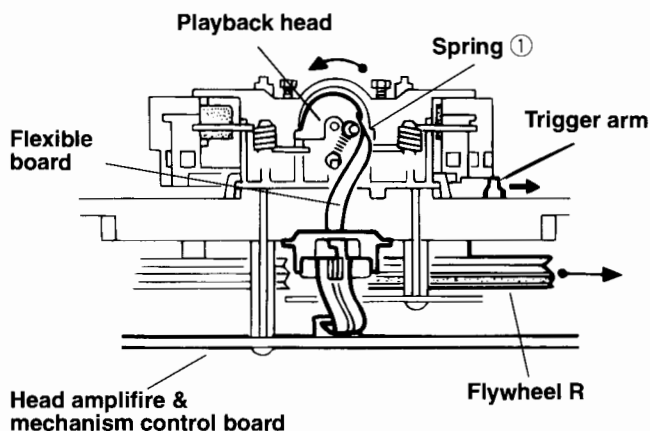
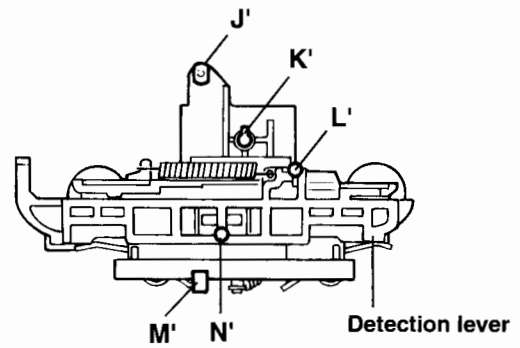
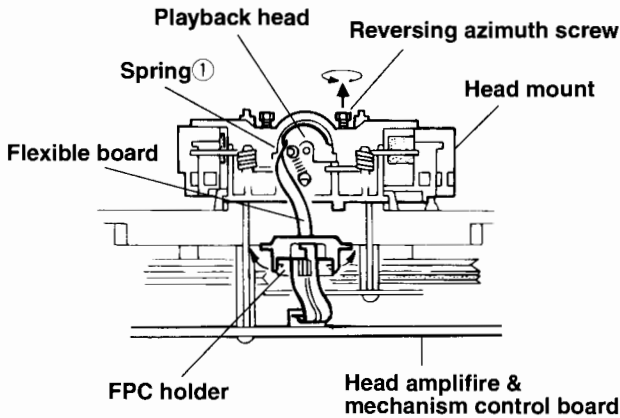
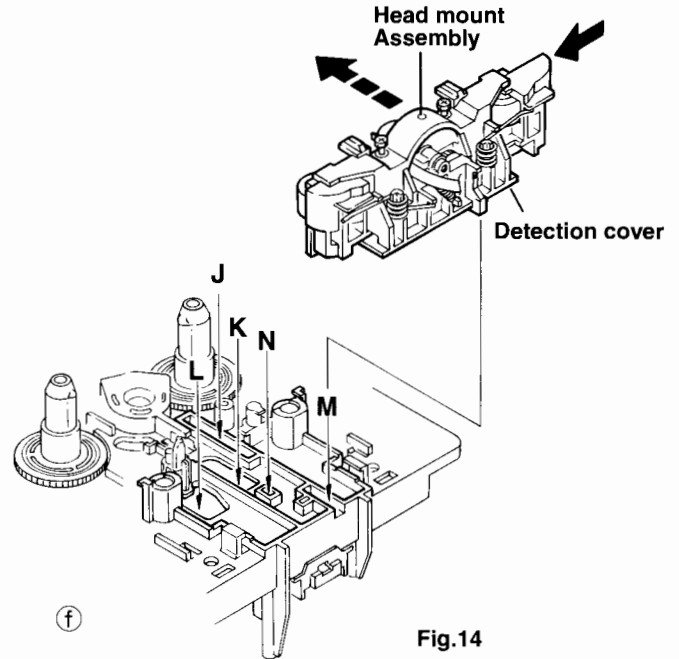

Fig.12
Fig.13 Head mount Assembly
Fig.15
Fig.14
2. When the flywheel R is rotated in counterclockwise direction from the position in Fig.12 to that in Fig.13.
6. Remove the spring ① from behind the playback head.
■ Reassembling the Playback,Recording and Eraser Heads(See Fig.13,Fig14)
- 2)Reassemble the playback head,from the front of the head mount to the position as shown Fig.13, Fig14,and Fig.15.(J', K',L' and M',N' are set to the hole of K and L and ditches of J,M and N and thru sting out the head mount assembly is built in.
- 4.Attach the flexible P.C. board to the chassis base, and fix it with the FPC holder as shown in Fig.15.